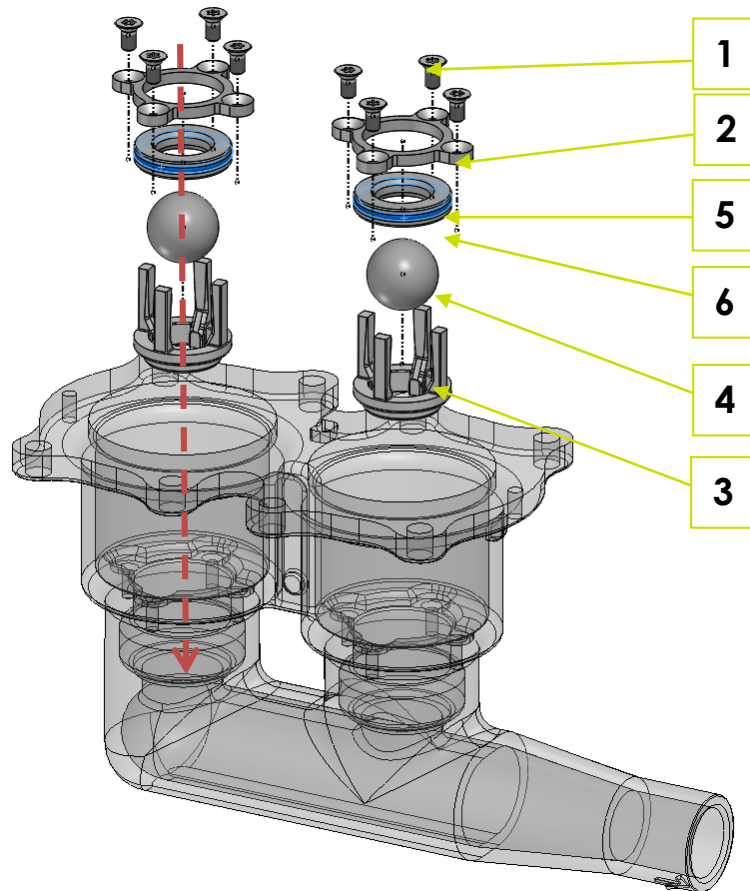

Fig. 6-4: Assembly of the media valves in the pump head
1. Insert both new balls (4) and cages (3).
2. Insert new valve seats (5), with new O-rings greased with assembly grease (Fig. 6-4: Assembly of the media valves in the pump head).
3. Insert both retaining stars (2).
4. Clean all eight countersunk head screws M6x16 (1) and grease them with Renolit Unitemp 2.